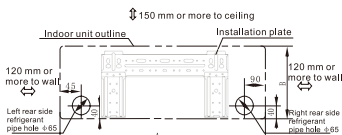

Fig 5
Determine hole positions according to the diagram detailed in Fig.5. Drill one (1) hole ($\phi > 6.5\text{mm}$) slanting slightly to outdoor side.